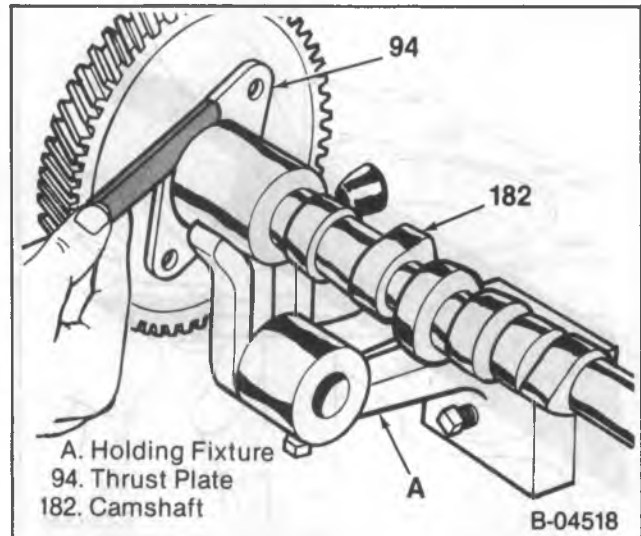

Figure 28—Measuring Camshaft Thrust Plate Clearance (Camshaft End Play)
- Thrust plate (94) to camshaft (182) clearance. This clearance governs camshaft end play. Use a feeler gage (figure 28). Proper clearance is 0.003-0.008-inch. Excessive clearance indicates that the thrust plate is worn and should be replaced, as outlined following:
Measure (Figure 28)
- Camshaft to thrust plate clearance. Use a feeler gage (figure 28). The correct clearance is 0.003-0.008-inch.